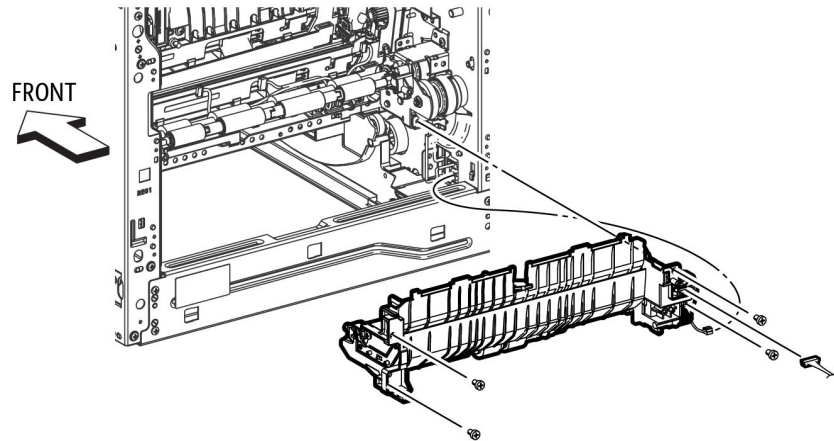

Figure 4 Remove the Registration Chute Feeder
8. Refer to Figure 4 to unplug the two connectors (P/J544, P/J545).
When installing the Registration Chute Feeder, install it at the angle shown in Figure 4.